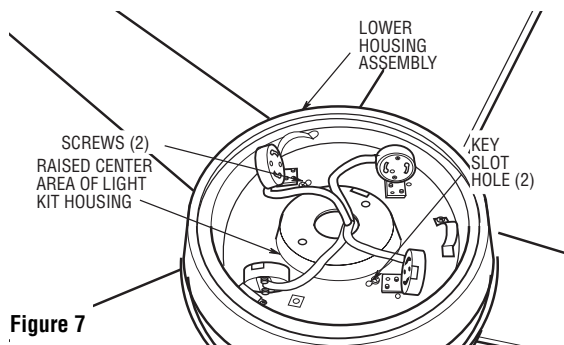

Figure 7
- 11. Attach the lower housing assembly to the fan motor using the two key slot holes. (Figure 7). Secure the lower housing assembly by tightening the two screws. Reinstall the two screws that were removed.